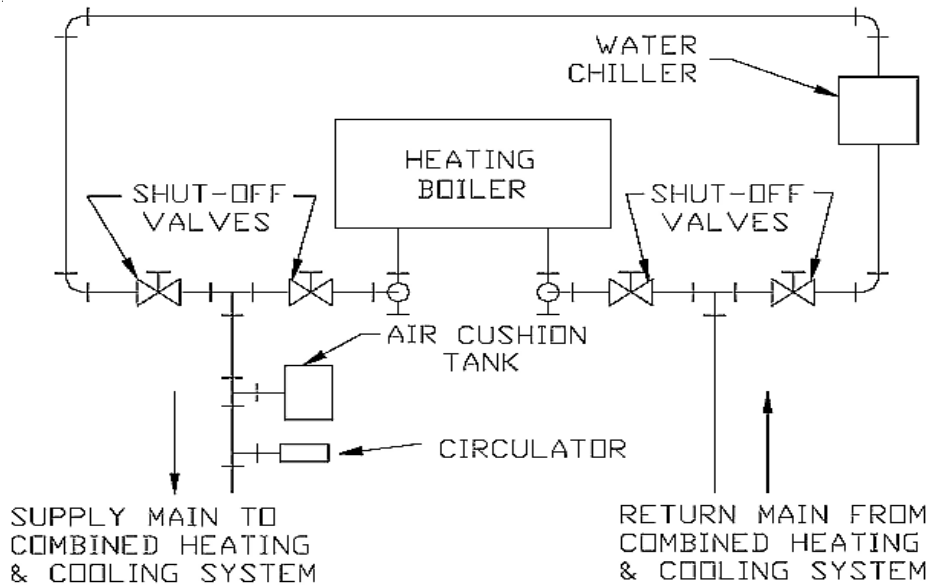

Figure 31: Recommended Boiler Piping For Combination Heating & Cooling Systems
- c. Piping with a Chiller - If the boiler is used in conjunction with a chiller, pipe the boiler and chiller in parallel. Use isolation valves to prevent chilled water from entering the boiler. See Figure 31.